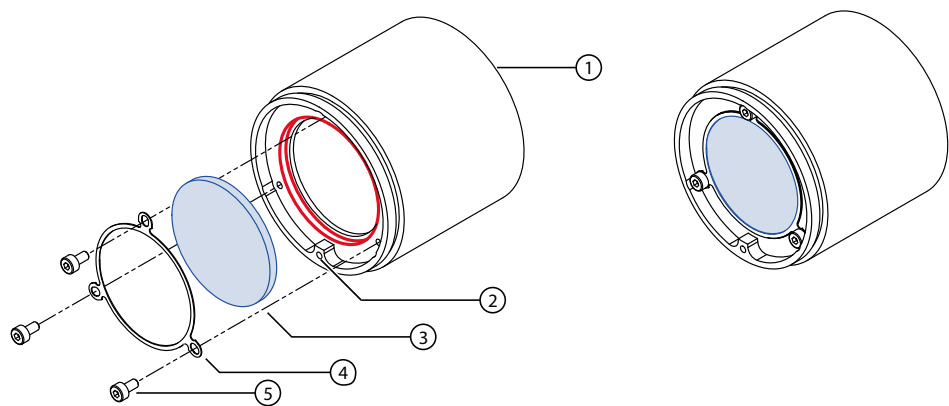

Figure 61: Changing the filter in the M42-Mount adapter
- See Figure 61 (blue = filter, red = filter recess).